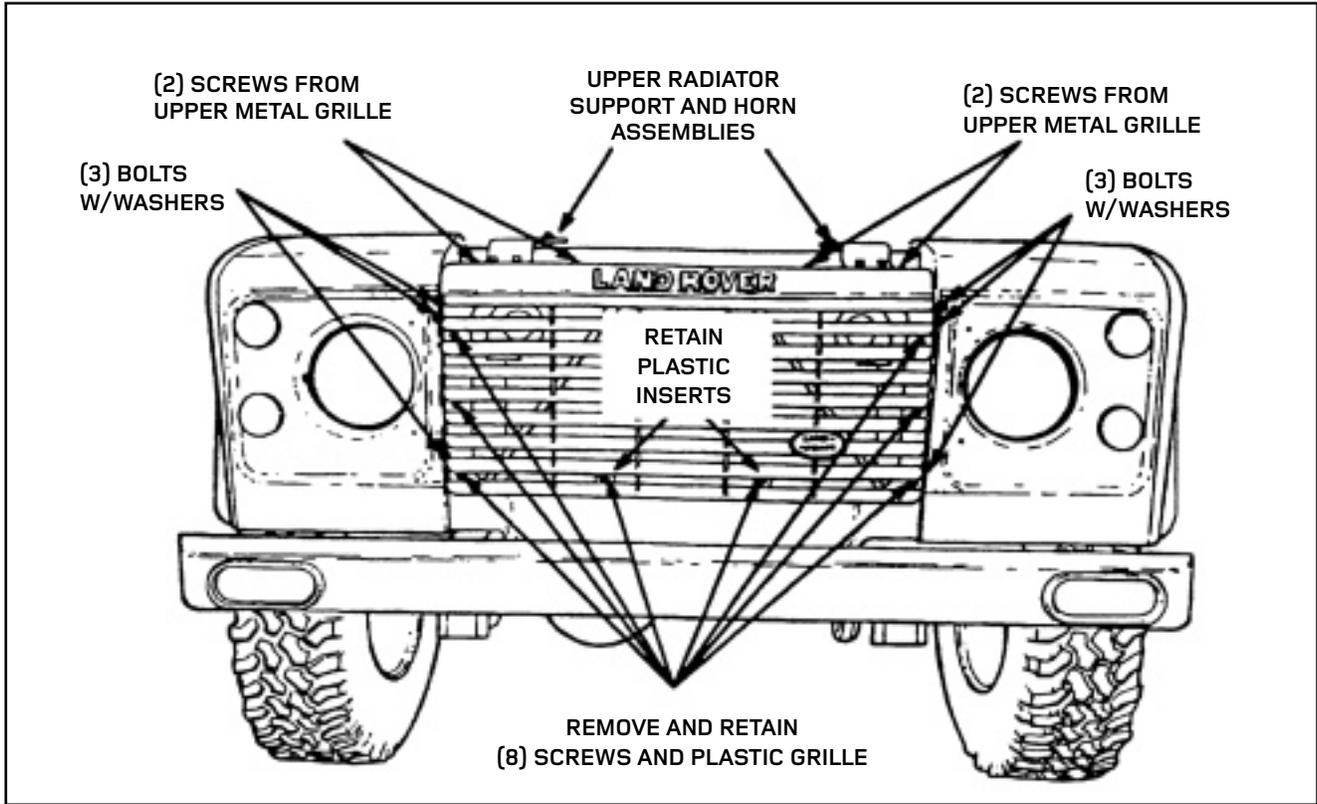

FIGURE 1
2. **Remove the front grille** (see figure 1, page 3).